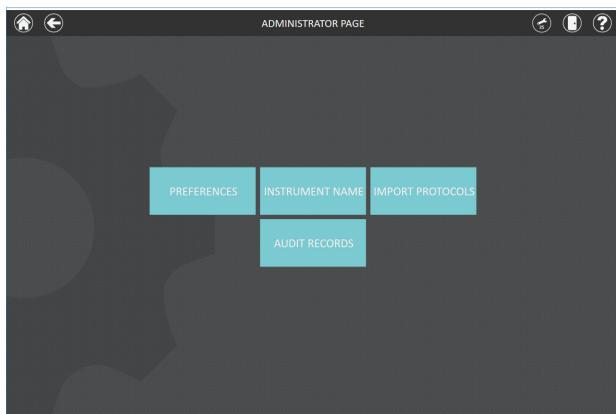

Figure 92. ‘Administrator Page’ screen.
2. On the ‘Settings’ screen, tap the **Administrator** button to open the ‘Administrator Page’ screen (Figure 92). This button is only visible if the current user has administrator-level access to the GloMax[®] Software.